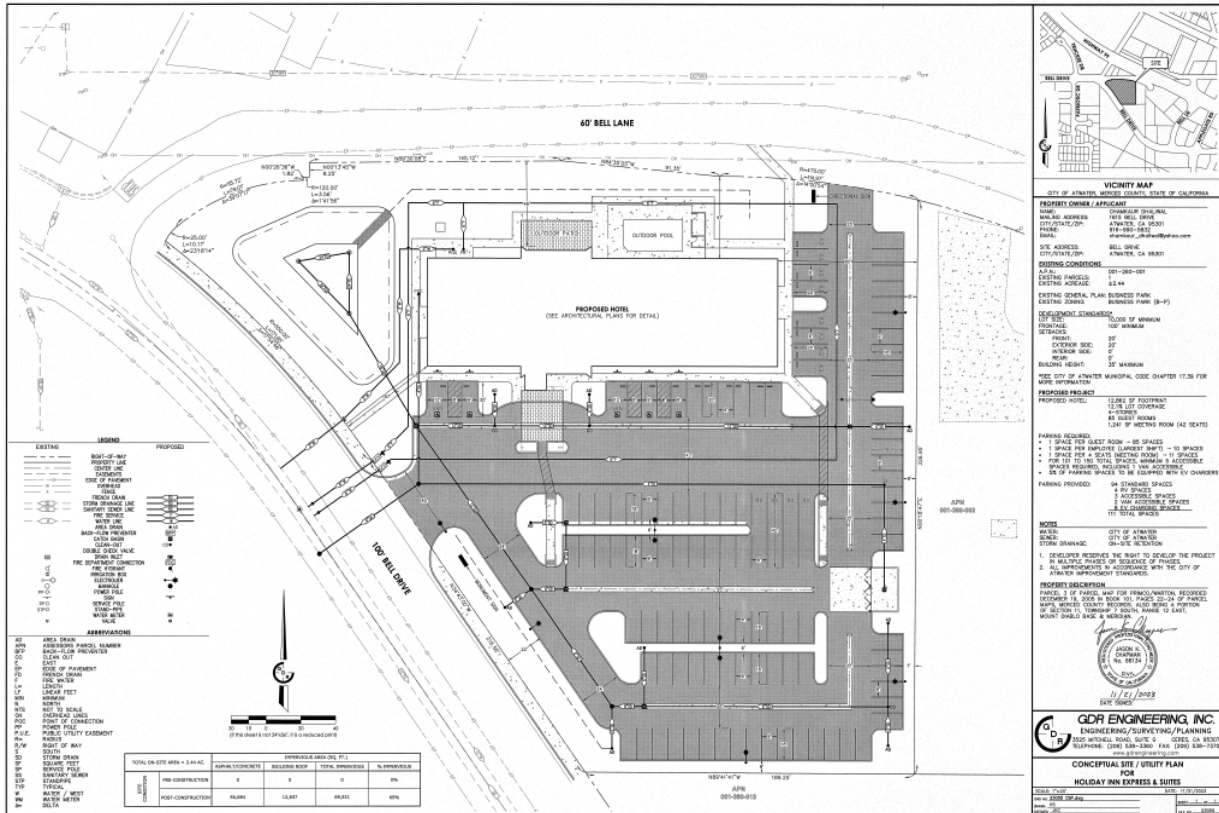

Figure 1 Site Plan
The Planning Department of the City of Atwater received a conditional use permit and site plan review application for a new hotel facility located at southeast corner of Bell Drive and Bell Lane (APN) 001-260-001 (refer to figure 1). This project is for a four-story 83-room hotel facility for Holiday Inn and Suites. The proposed project will include a total of 111 customer parking stalls, 94 standard spaces, four (4) RV spaces, three (3) ADA compliant stalls, two (2) van accessible spaces and eight (8) E.V. charging spaces. The overall height of the building is 51'-3" including four stories.
The applicant, requests approval of Conditional Use Permit No. 23-21-0100 and Site Plan Review No. 23-21-0200 pursuant to the authority of Atwater Municipal Code (AMC) section 17.39.010, 17.39.030 and 17.71. The approval of these entitlements would facilitate the construction of a four-story hotel facility consisting of 83 rooms with a mix of room types ranging from studios to suites, including accessibility-compliant rooms with both mobility and hearing-impaired features. The top three floors will be guest rooms and the first floor will include a mix of staff services, building support services, public spaces/guest amenities, meeting rooms, and a few guest rooms. The footprint of the building will be just under 13,000 sq. ft, as shown in Figure 1. The exterior of the hotel will provide a mix of materials in a pleasing color palette and blended composition of synthetic stucco, stone, and architectural metals.